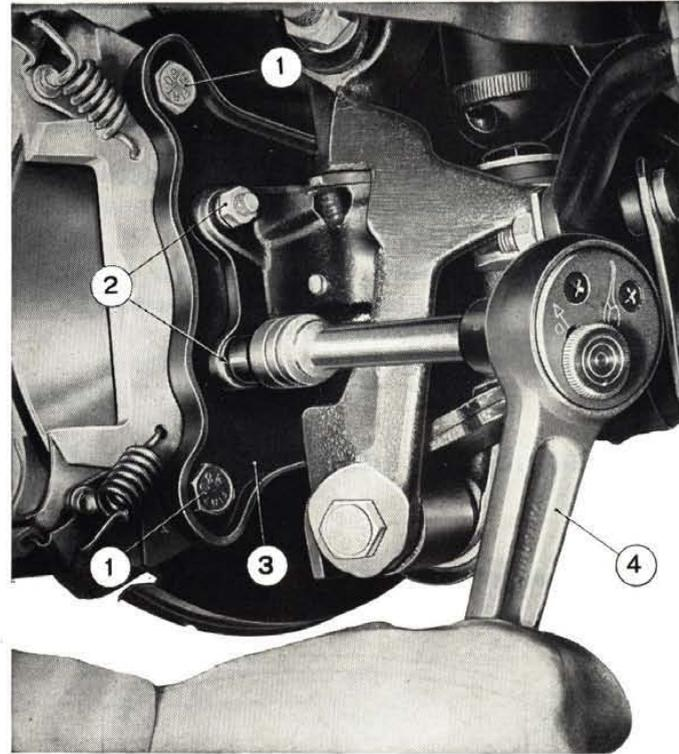

Fig. 457 - Fitting brake caliper.
- at last back out caliper bracket-to-disc shield screws and withdraw caliper mounting bracket (fig. 457).